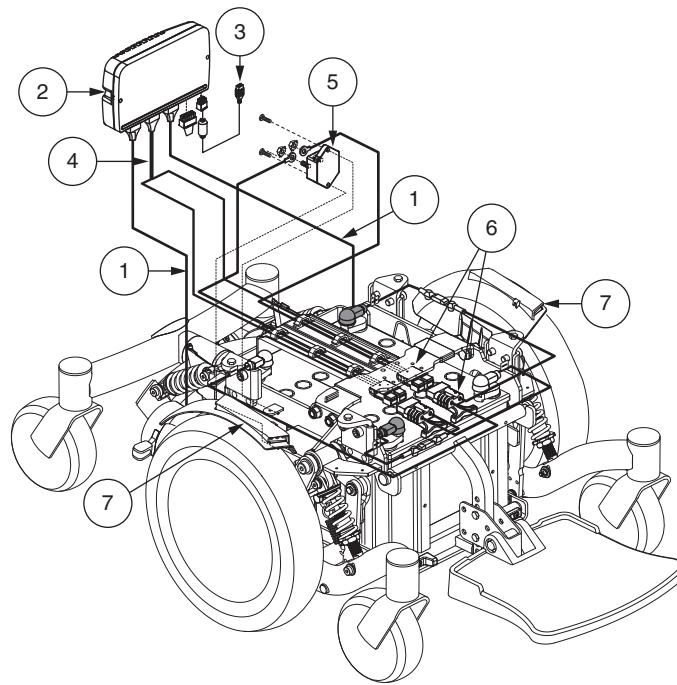

Figure 1. Q6 Series Electrical Components
Your power chair has two main assemblies: the seat and the power base. Typically, the seat assembly includes the armrests, seatback, and seat base. The power base assembly includes two motor/brake assemblies, two drive wheels, four caster wheels, two batteries, and wiring harnesses. **See Identification Key (pages 4-5) and figure 1.**
The electrical components consist of the controller assembly, the batteries, and the motors. The batteries, motors, and controller power module (if equipped) are located on the power base assembly. The controller is located on the seat assembly. Connectivity between the controller and the motors, batteries, and the battery charger is provided by one or more wiring harnesses. **See figure 1.**
**NOTE:** *Prior to initial use, ensure that the fender light switch is connected. See figure 1.*
5. Plug the controller connector into the rear of the power base. **See figure 1.**